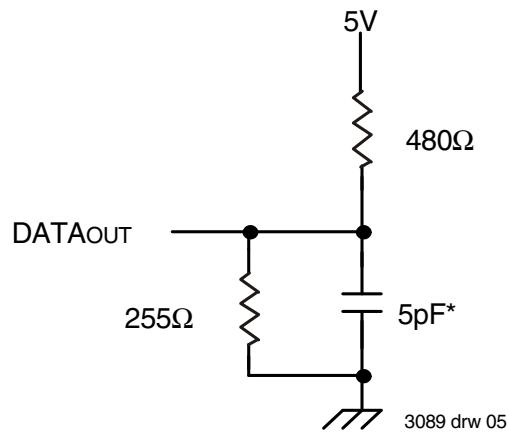

Figure 2. AC Test Load
- This parameter guaranteed with the AC Load (Figure 2) by device characterization, but is not production tested.
3. This parameter guaranteed with AC Load (Figure 2) by device characterization, but is not production tested.